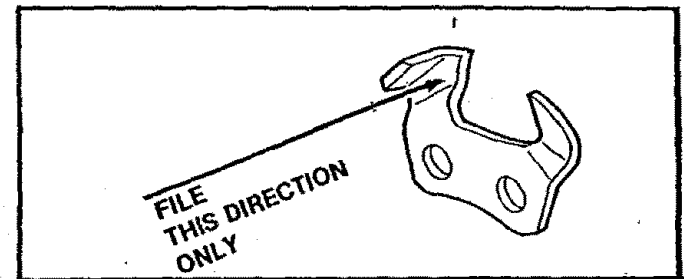

Figure 24
6. File from inside toward outside of cutter in one direction only — 2 or 3 strokes per side plate edge should be enough. Figure 24.